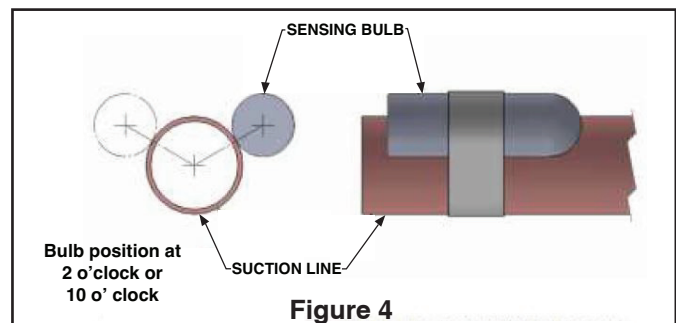

Figure 4
It is recommended that the TXV bulb be installed parallel to the ground (on a horizontal plane). The bulb position must be at 2 o'clock or 10 o'clock. Figure 4 shows the recommended position for the TXV bulb installation in the horizontal plane.
2. The sensing bulb MUST be mounted at the 2 o'clock or 10 o'clock position as shown in Figure 4.